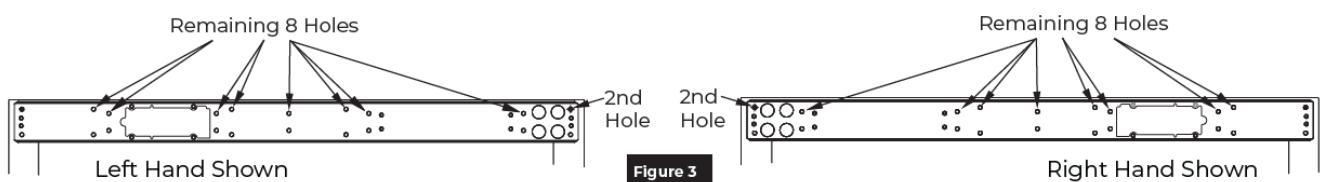

Figure 3
4. Ensure the backplate is level and aligned with the door frame. (Figure 3)
5. Using the backplate as a guide, mark and drill the second hole. (Figure 3)
7. Using the backplate as a guide, drill and tap the remaining eight (8) holes in frame. (Figure 3)
8. Secure with eight (8) screws and tighten.